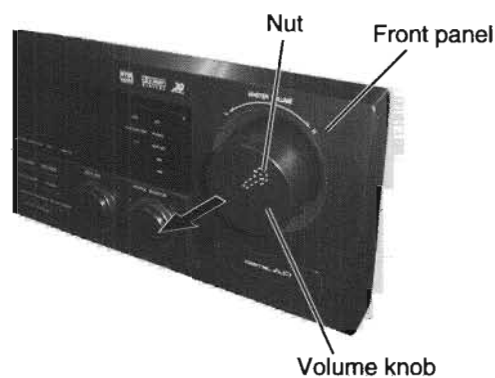

Fig.19
■ Removing the system control board / power switch board (See Fig.19 to 20)